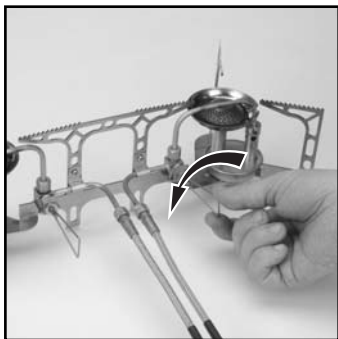

FIG. 17
- Turn both flame adjusters to “High/Light” (Fig. 17 and 18).